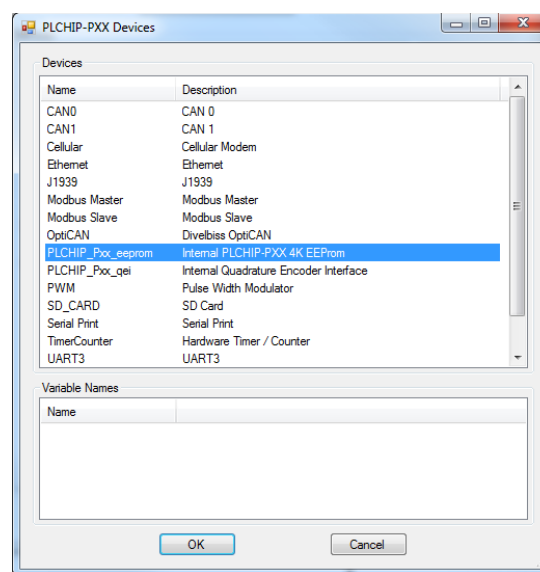

Figure 2-36 - PLCHIP-PXX Devices - EEPROM
4. Click the **PLCHIP_Pxx_eeprom** device (highlight). Refer to Figure 2-36.